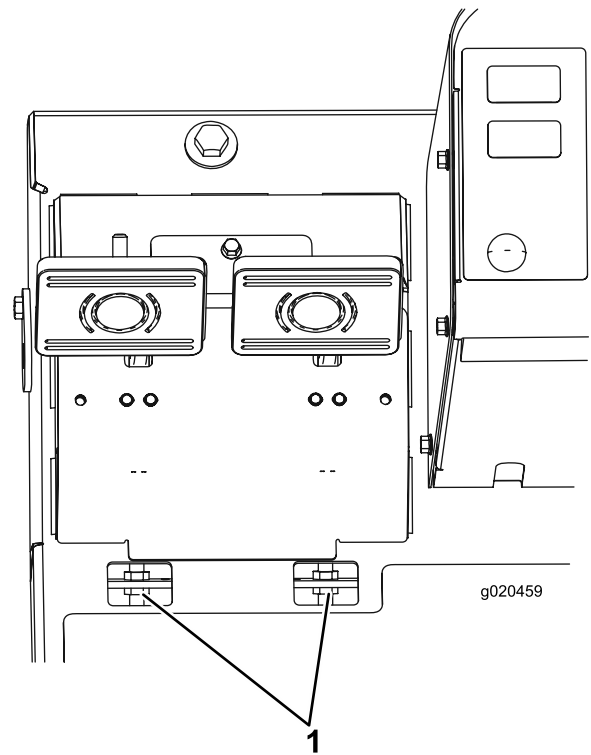

Figure 94
- B. Loosen the front nut on the threaded end of the brake cable (Figure 94).